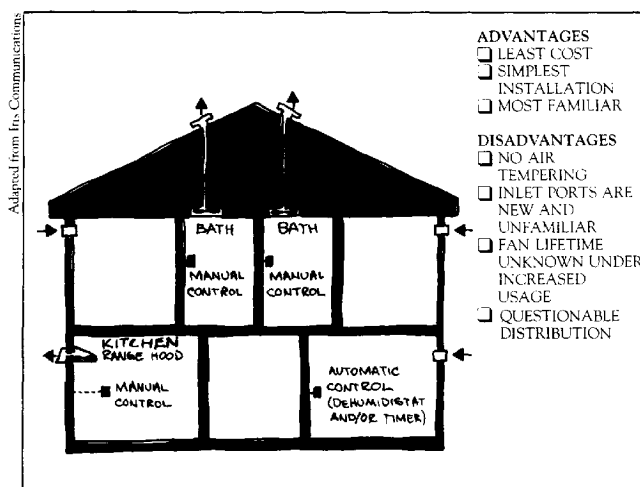

Figure 1. Upgraded bath fan. This is the least expensive system. It requires a centrally located bathroom and a strong, quiet bath fan.
1. Upgraded bath fan. The most popular ventilation strategy we use is the integrated-spot-and-whole-house system (Figure 1). In this case, typical bath fans (50 cfm minimum capacity) and kitchen fans (100 cfm minimum capacity) are installed. One of these "spot" fans, however, is upgraded to a more powerful and quieter model. This is usually a centrally located bath fan. The upgraded fan must be able to continuously deliver airflow equivalent to 10 cfm per bedroom plus an additional 10 cfm. Its noise should be rated at no more than 2.5 sones. For a four-bedroom house, this is only a 50 cfm fan. We recommend sizing fans larger than the minimum and using split-capacitor fans, which permit the use of a variable speed control.